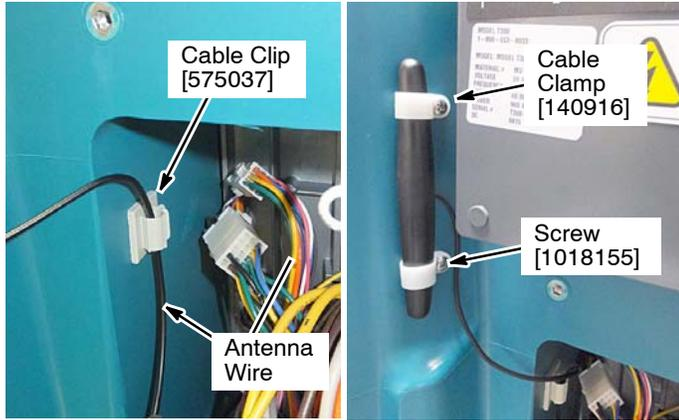

Fig. 11
- Adhere the cable clip to machine as shown. Secure antenna wire within clip. Using two cable clamps and two shelf-tapping screws, mount the antenna to machine as shown (Figure 11).